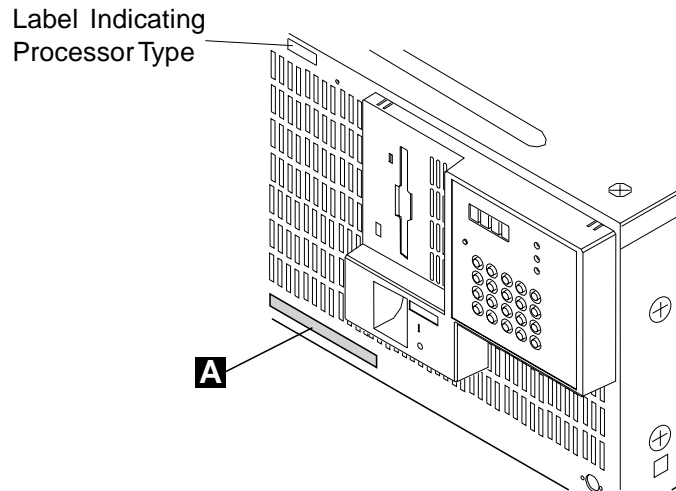
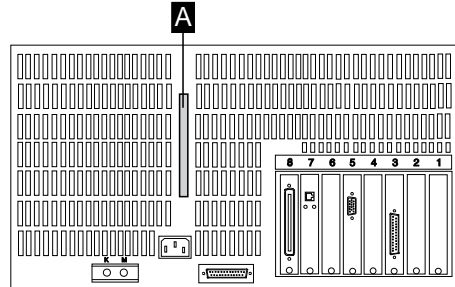

Figure 1-26. Installing Label on the Front Side of the Service Processor
Figure 1-27. Installing Label on the Rear Side of the Service Processor
2. ____ Using label (PN 80G0680), **identify** your Service Processor-A or Service Processor-B by sticking the appropriate label **A** on the front and rear side of the unit (refer to Figure 1-26 and Figure 1-27).